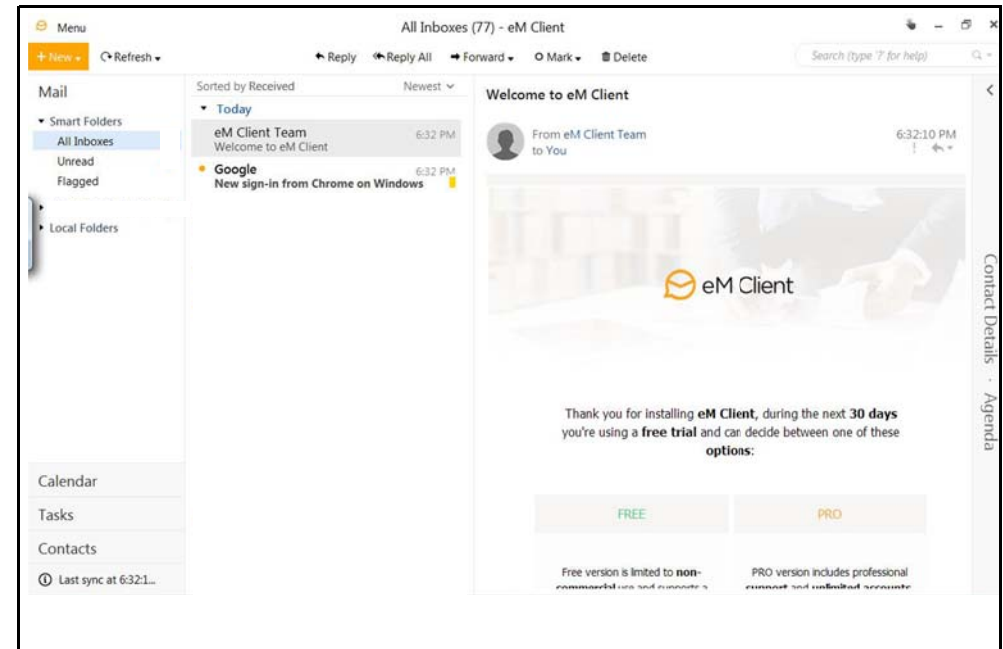

Figure 1-13
7. Once the client has successfully linked to your address, you can begin using the new e-mail client software on the diagnostic tool (Figure 1-13).